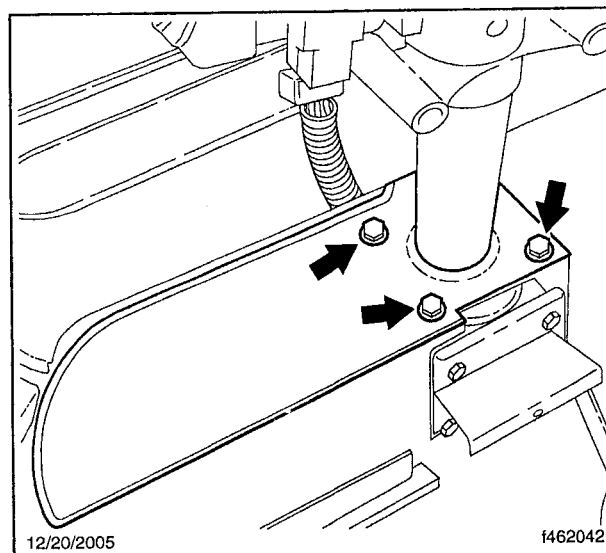

Fig. 5, Cross-Shaft Cover Bolts
2. Remove the three bolts on the steering cross-shaft cover, and remove the cover. Retain the bolts for reinstalling the cover. See **Fig. 5**.